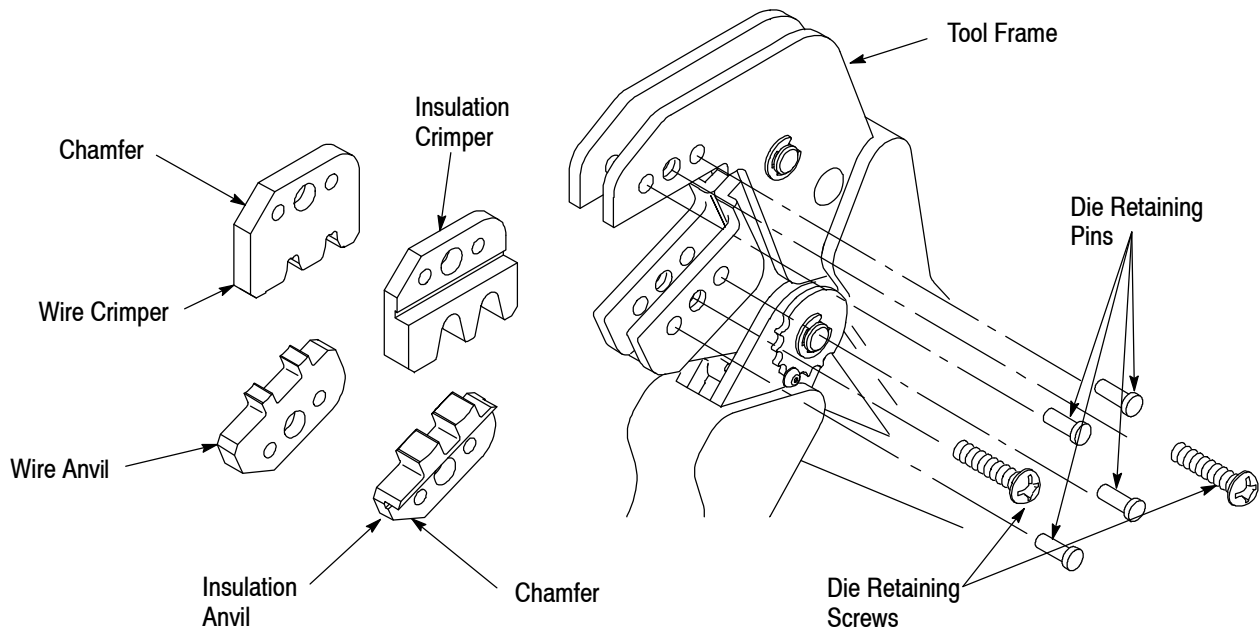

Figure 2
**2. DESCRIPTION** (Figures 1 and Figure 2)
**3. INSTALLATION AND REMOVAL OF DIE SET** (Figure 2)